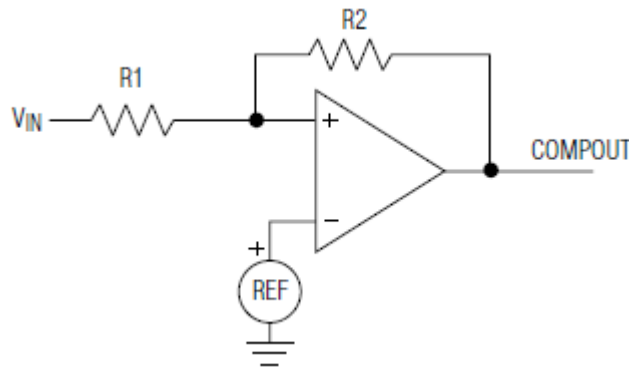
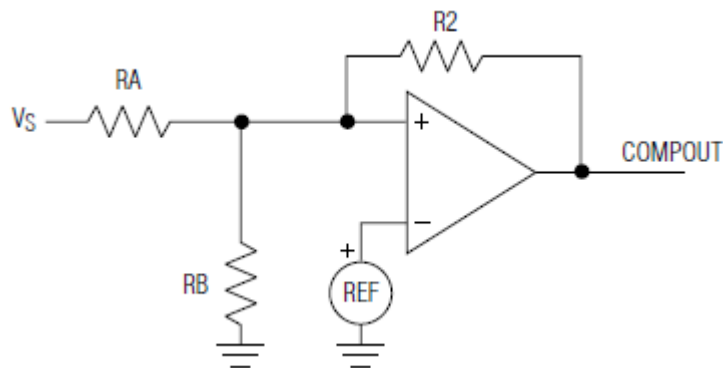

Figure 3 External Hysteresis
Figure 4 External Hysteresis
lower threshold. The comparator in the CN951 contains a $\pm 7\text{mV}$ (14mV) internal hysteresis to ensure clean output switching, even with slow-moving signals. When necessary, hysteresis can be increased by using external resistors to add positive feedback as shown in Figure 3 and Figure 4. The 2 circuits increase the hysteresis at the expense of more supply current and longer response time.
(1) In the circuit of Figure 3:
(2) In the circuit in Figure 4